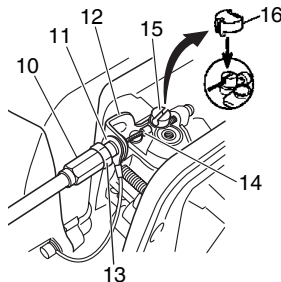

Fig. 8
Connect throttle wire end (14) to carburetor (15) and install swivel cap (16) (if so equipped) where is included in tool bag, onto swivel (15) (Fig. 8).